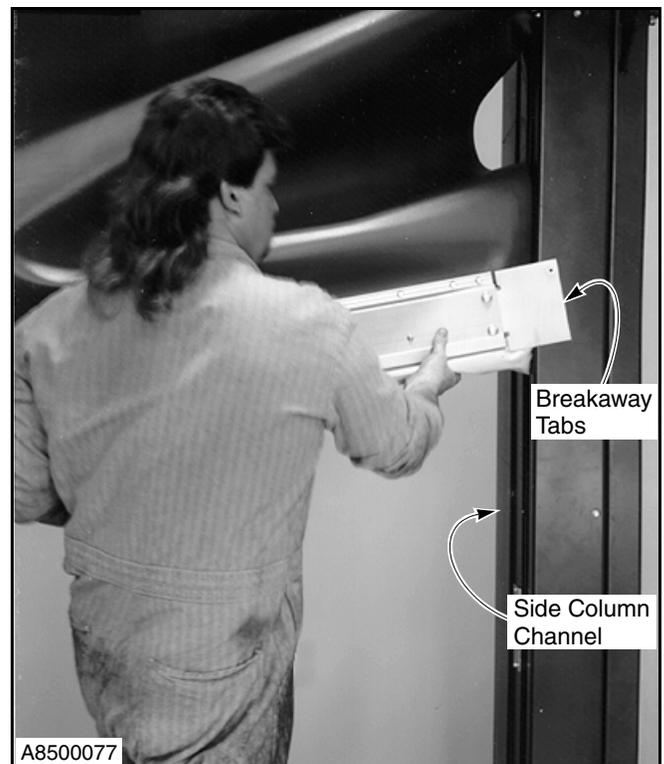

Figure 38
3. Position the breakaway tabs on one end of the bottom bar assembly in the side column channel. Lift the other side of the bottom bar and position the breakaway tabs in the side column channel. (See Figure 38.)